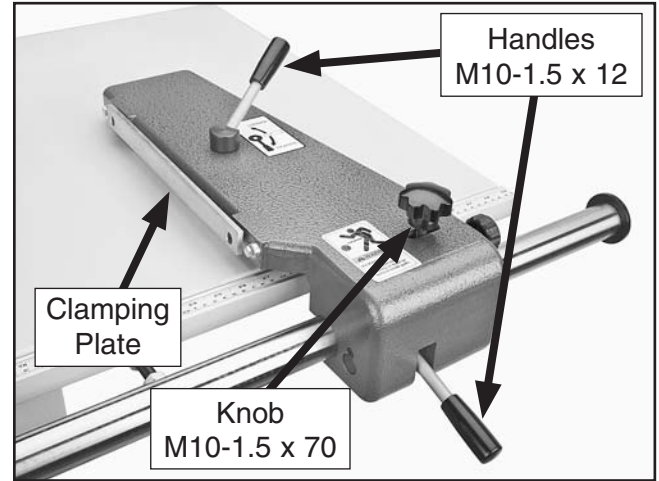

Figure 15. Rip fence handles.
- Slide the rip fence base onto the round rail. Thread the handles and knob into the rip fence base, where shown in **Figure 15**.